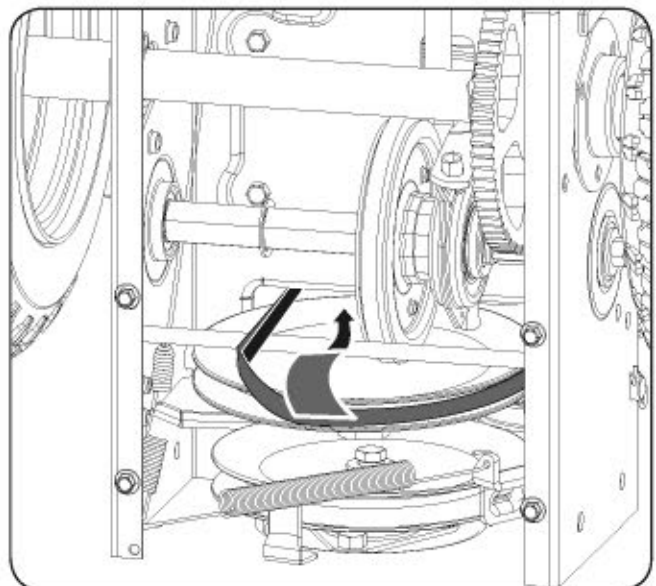

Figure 21b
- Slip the drive belt off the pulley and between friction wheel and friction wheel disc. (See **Figure 21b**)